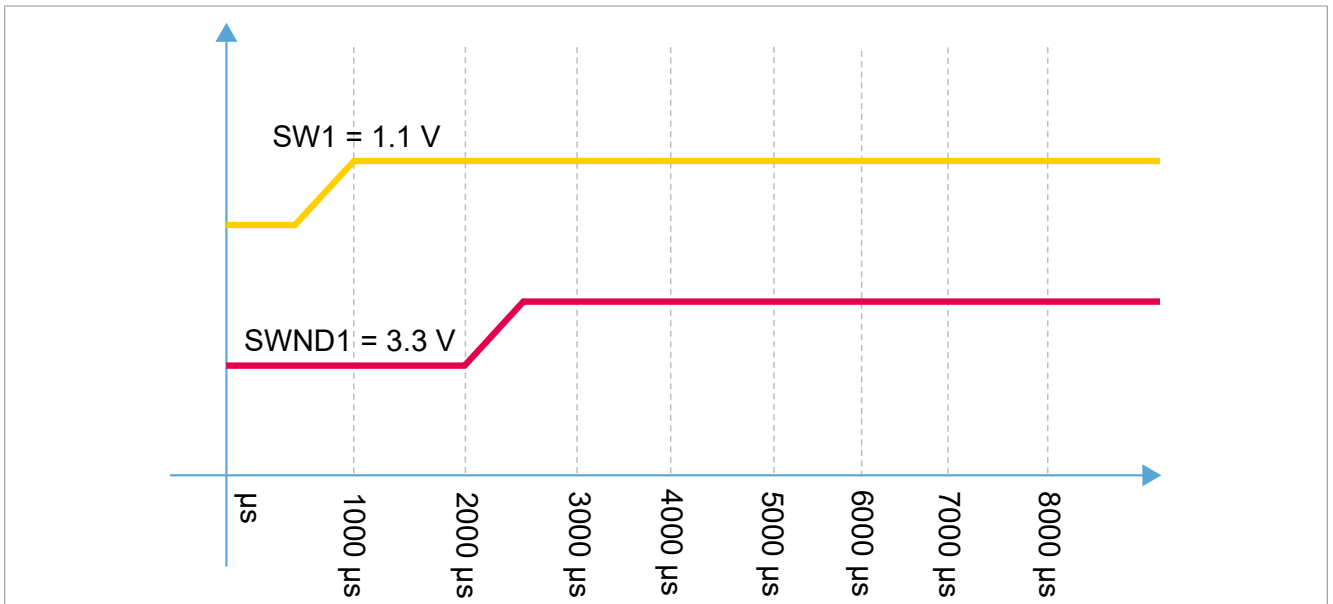

Figure 11. PMIC PPF5020 power sequence
The OTP memory of PPF5020 is programmed to generate the 1.1 V supply before the 3.3 V supply. The 1.1 V supply is connected to switch SJA1110B. Figure 11 shows the power-on sequence and timing of PPF5020.
**Note:** To achieve the PMIC PPF5020 power sequence shown in Figure 11, use the 3.3 V supply from the PMIC, instead of the 3.3 V supply from the host connectors.